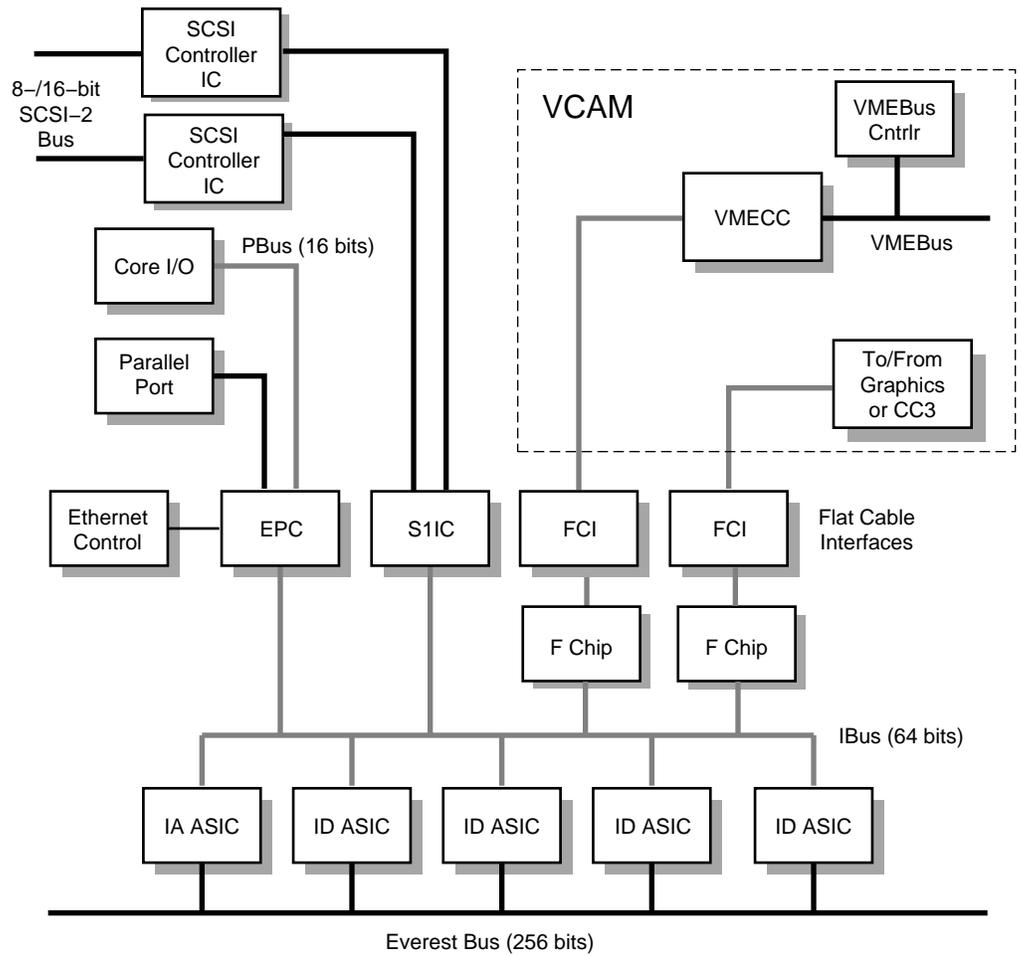

Figure E-2 IO4 Base Board Functional Block Diagram
See Figure E-2 for a functional block diagram of the IO4 board.
Communication with the VME and SCSI buses, the installed set or sets of graphics boards, and Ethernet takes place through the 64-bit Ibus (see Figure E-2). The Ibus interfaces to the main system bus, the 256-bit Ebus, through a set of interface control devices, an I address (IA) and four I data (ID). The ID ASICs latch the data, and the IA ASIC clocks the data from each ID to the Flat Cable Interface (FCI) through the F controller (or F chip).